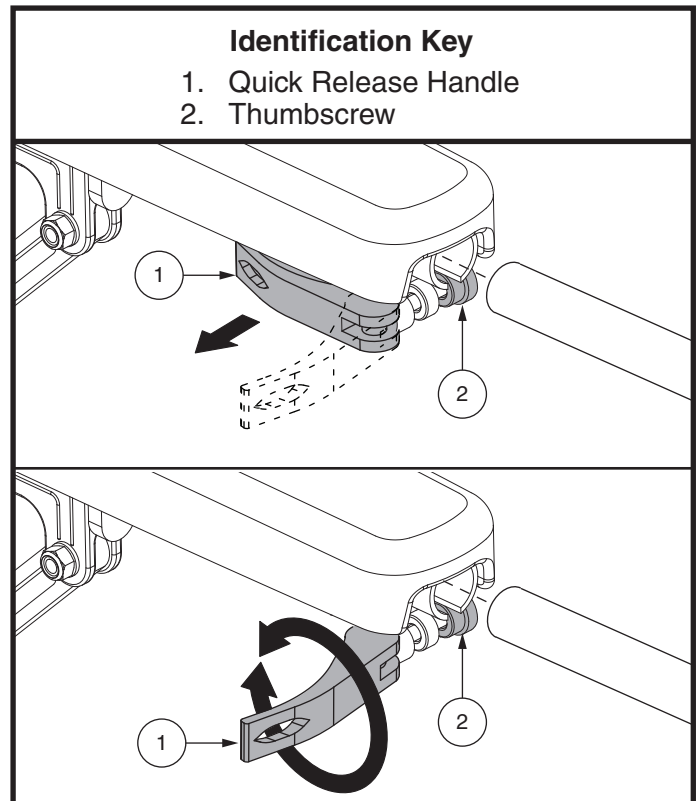

Figure 9. Armrest Component Removal/Installation
2. Unlatch the quick release handle and loosen the thumbscrew. **See figure 9.**
4. Flip up the controller armrest. Unlatch the quick release handle and loosen the thumbscrew. **See figure 9.**